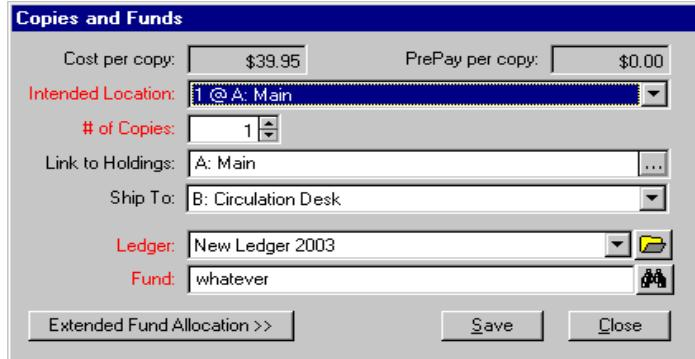

Figure 13-15. Copies and Funds dialog box - ellipsis displayed beside the Link to Holdings field
- The **ellipsis** button beside the **Link to Holdings** field on the **Copies and Funds** dialog box (Figure 13-15). The **Copies and Funds** dialog box can be displayed from the **Copies/Funds** tab of a line item. See Copies/Funds Tab on page 6-48.